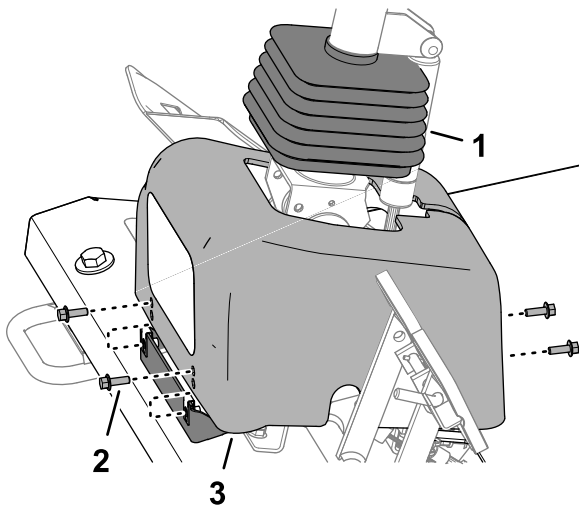

Figure 19
1. Remove the boot from the steering cover, and slide the boot up (Figure 19).
2. Remove the 4 flange-head screws that secure the steering cover to the cover mounts, and lift the cover (Figure 19).